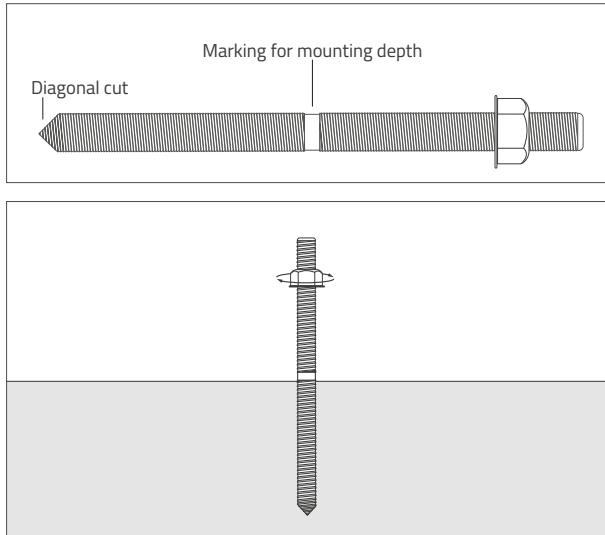

Fig. 4. Mount the anchor and dry off excess adhesive pushed up from the hole.
The mounting depth for the concrete foundation is marked on the adhesive anchor. (See fig. 4).
3.4 Push an anchor into the adhesive filled hole. (See fig. 4) Wipe off excess adhesive pressed up from the hole.